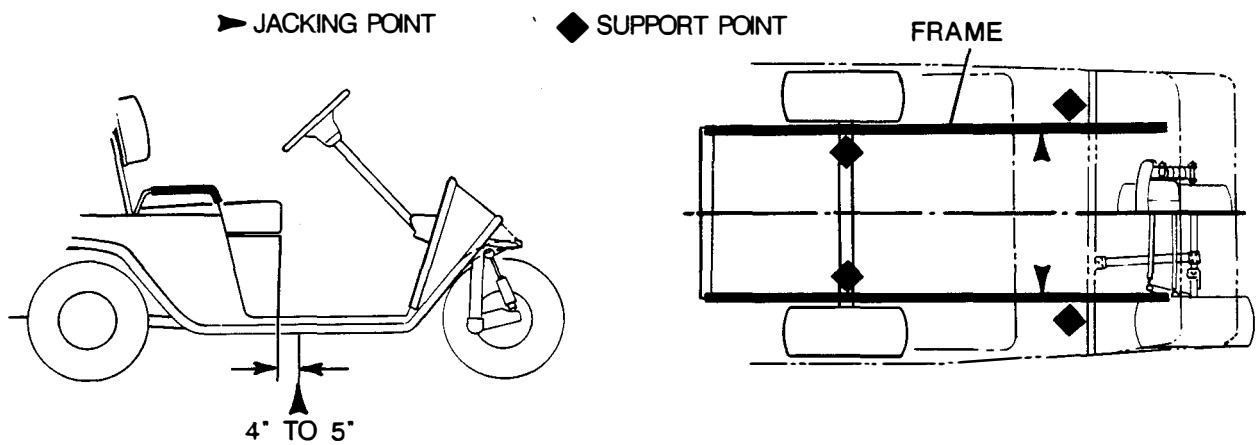

FIG. B-1 LIFTING AND JACKING POINTS
**LIFTING THE 3 AND 4 WHEEL ELECTRIC POWERED VEHICLE (Fig. B-1)**
**LIFTING PROCEDURE FOR FRONT OF 3 WHEEL VEHICLE (Fig. B-1)**